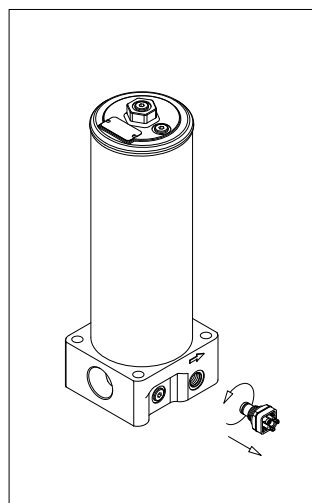

fig. 22
- (Fig. 22) Unscrew the indicator body